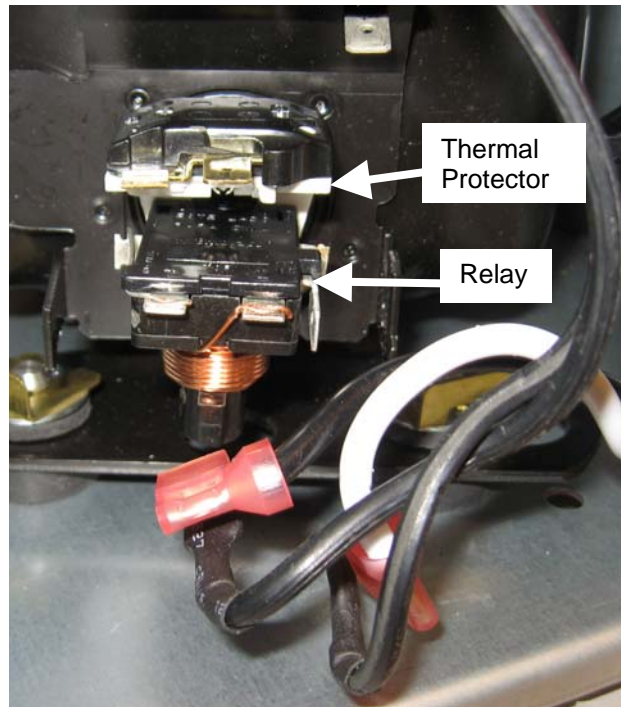

Figure 2
- STEP 4:** Disconnect the wires from the compressor components by pulling on the terminals connected to the fan motor. (See Figure 2). Take note of the wire locations.